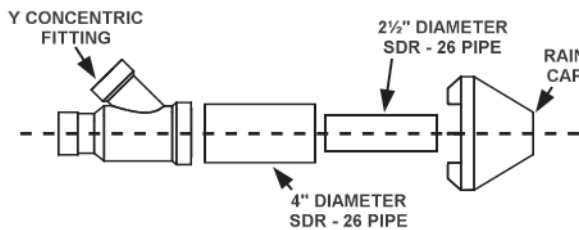

Figure 25
- Cement Y concentric fitting to larger diameter kit pipe, see Figure 25.
- Cement rain cap to smaller diameter kit pipe, see Figure 25.
- a) Cement the Y concentric fitting to larger diameter kit pipe, see Figure 25.
- b) Cement the rain cap to the smaller diameter kit pipe, see Figure 25.
NOTE: If assembly needs to be extended to allow side wall thickness requirement, the 2 pipes supplied in the kit may be replaced by using same diameter, field-supplied SDR-26 PVC (D2241) pipe. Do not extend 21 1/8" (53.6 cm) dimension more than 60" (1.5 m). See Figure 25.